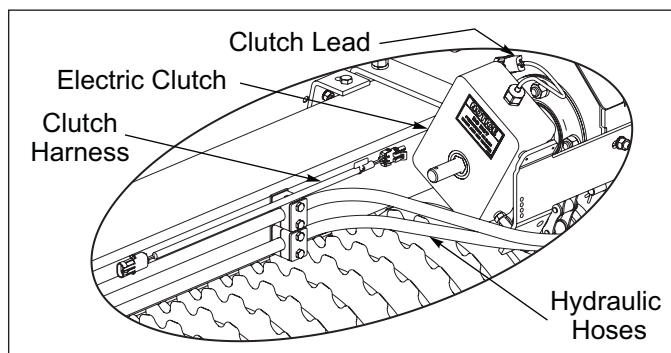

Figure 2-19: Clutch Harness
2. Connect Clutch Harness or Seeder Harness 2-Pin Connector to Clutch Lead and route along Frame and Drawbar/3-PT Hitch. Secure to Frame and Drawbar/3-PT Hitch or to Hydraulic Hoses and Warning Lamp Harness with tie wraps. **See Figure 2-19.**